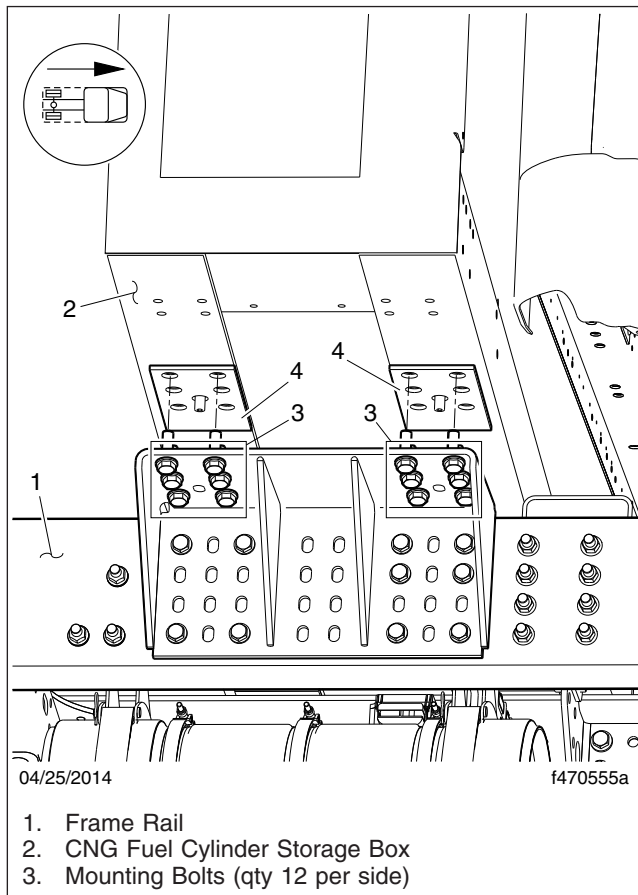

Fig. 7, Fuel Cylinder Storage Box Mounting Bracket (passenger side shown)
1. Ensure that the fuel cylinder storage box is secured to the frame. Inspect for any signs of looseness. If necessary, tighten the storage box mounting bolts 160 lbf-ft (217 N·m). See Fig. 7.
NOTE: During initial pre-delivery inspection (PDI), tighten the storage box mounting bolts (shown in Fig. 7) 180 lbf-ft (244 N·m).